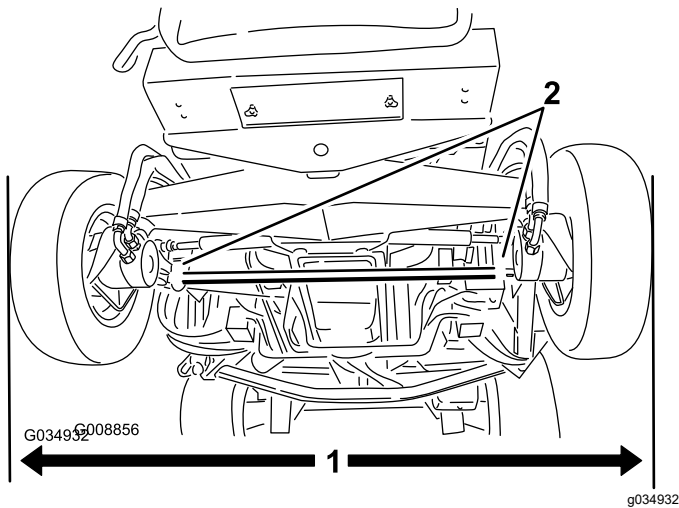

Figure 84
1. With the rear tires in a straight position, measure the outside distance (at axle height) at the front and rear of the rear tires (Figure 84).
2. To adjust the toe-in, loosen the clamps at both ends of the tie rods (Figure 84).